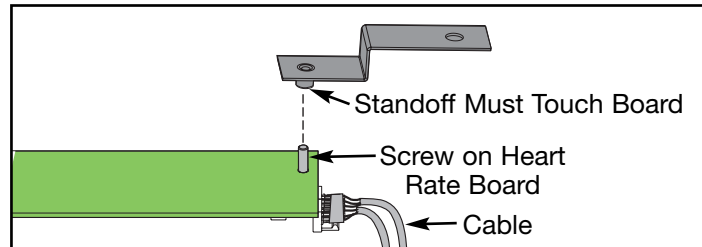

Figure 21
- F. Turn the heart rate board over and use a Phillips head screwdriver to remove the screw from the heart rate bracket. See Figure 21.
- A. Place the screw removed during step 4F into the heart rate board from the bottom. See Figure 21.
- B. Place the short end of the heart rate bracket over the screw on the heart rate board with the standoff touching the board. See Figure 21.
- D. Be sure the cable is still firmly connected in the right side of the heart rate board. See Figure 21.